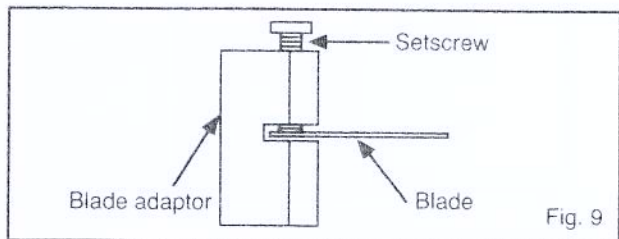

Fig. 9
- Loosen the screw in blade adaptor and put the new blade into blade adaptor. See figure 9.